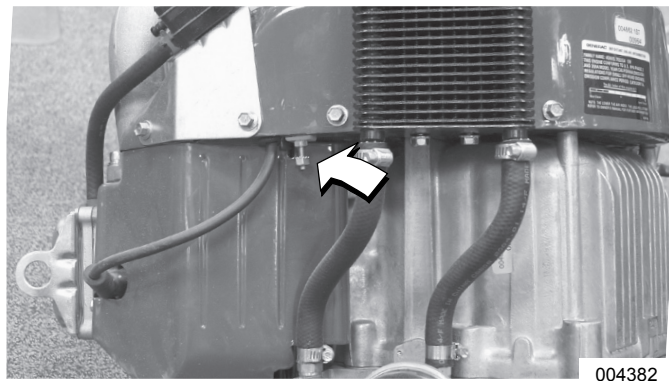

Figure 13-19. Ground Terminal
- 2. See **Figure 13-19**. Connect ignition ground wire to ignition ground terminal in backing plate.